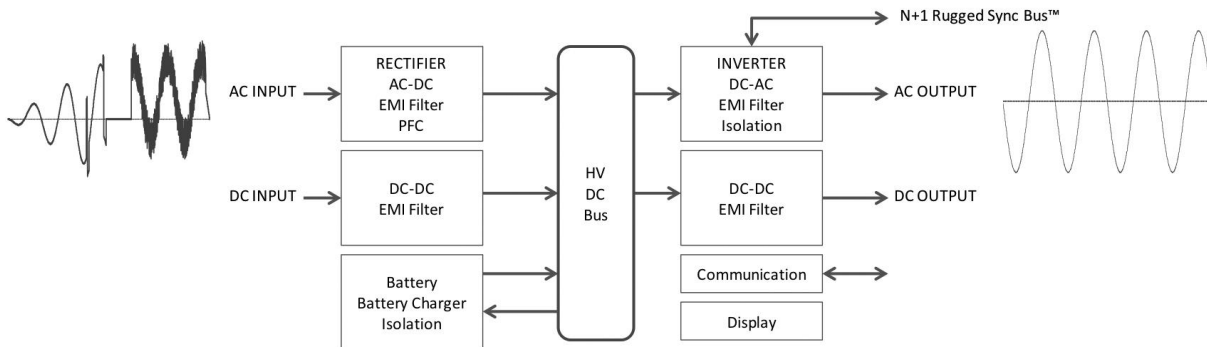

Fig 2. Simplified Block Diagram of Acumentrics' Uninterruptible Power Supplies
One such board, found as part of the block named, "HV DC Bus" in Figure 2, converts a 200 VDC signal to a 28V DC signal before sending such signals for output. It is connected to numerous other systems and is controlled by a central System Controller (SC) board. As such, testing of the board traditionally happens after the UPS is almost completely assembled. If a faulty board is discovered, the system must be disassembled before the board can be replaced and the unit re-tested.